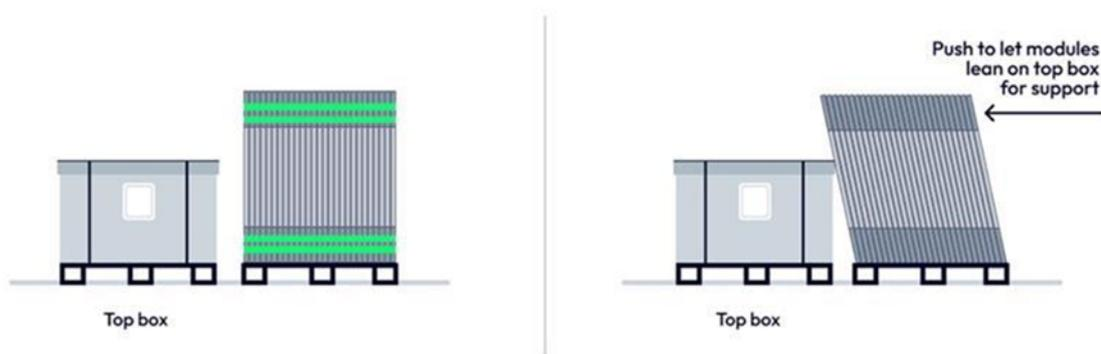

Figure 19: Leaning of top box for support.
- d) Gently push the PV modules so that they can safely lean against the top box placed for support during step 5 (Figure 19).